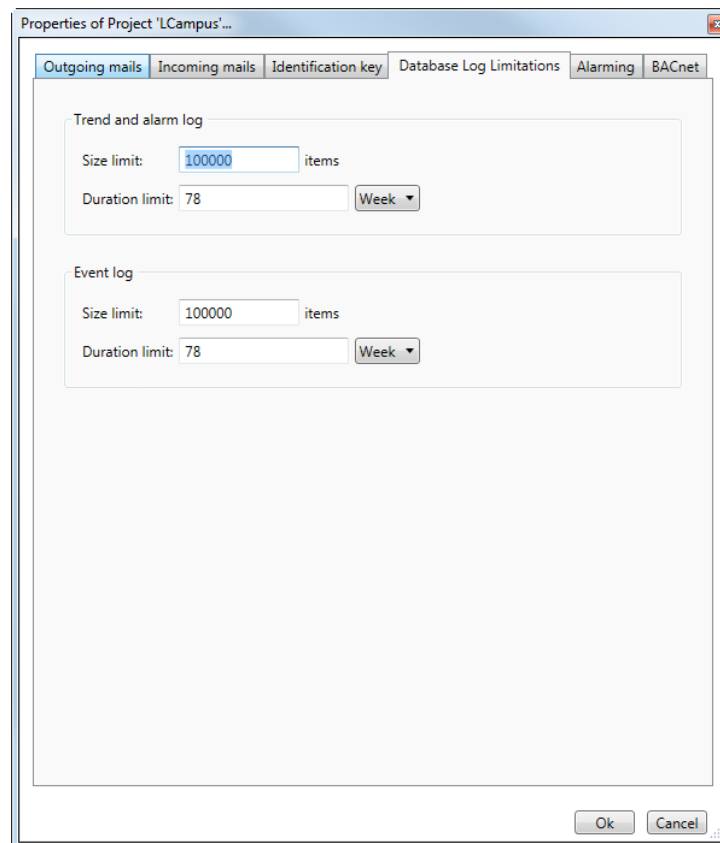

Figure 148: Database Log Limitations
2. The trend and alarm log size is limited by the following parameters (see Figure 148):